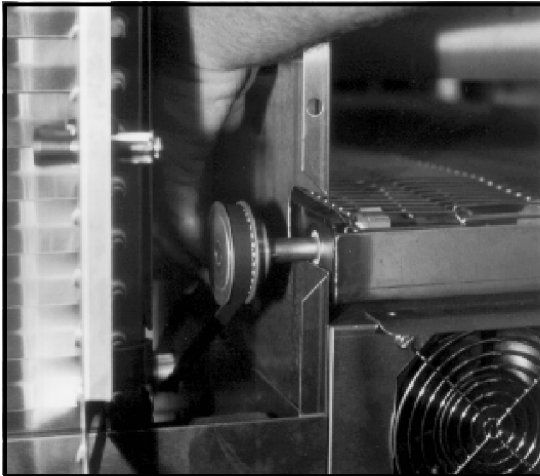

Figure 7
2. Install the drive belt on the motor and then around the pulley on the conveyor assembly. See Figure 7. Pull the conveyor assembly back to tighten the belt.